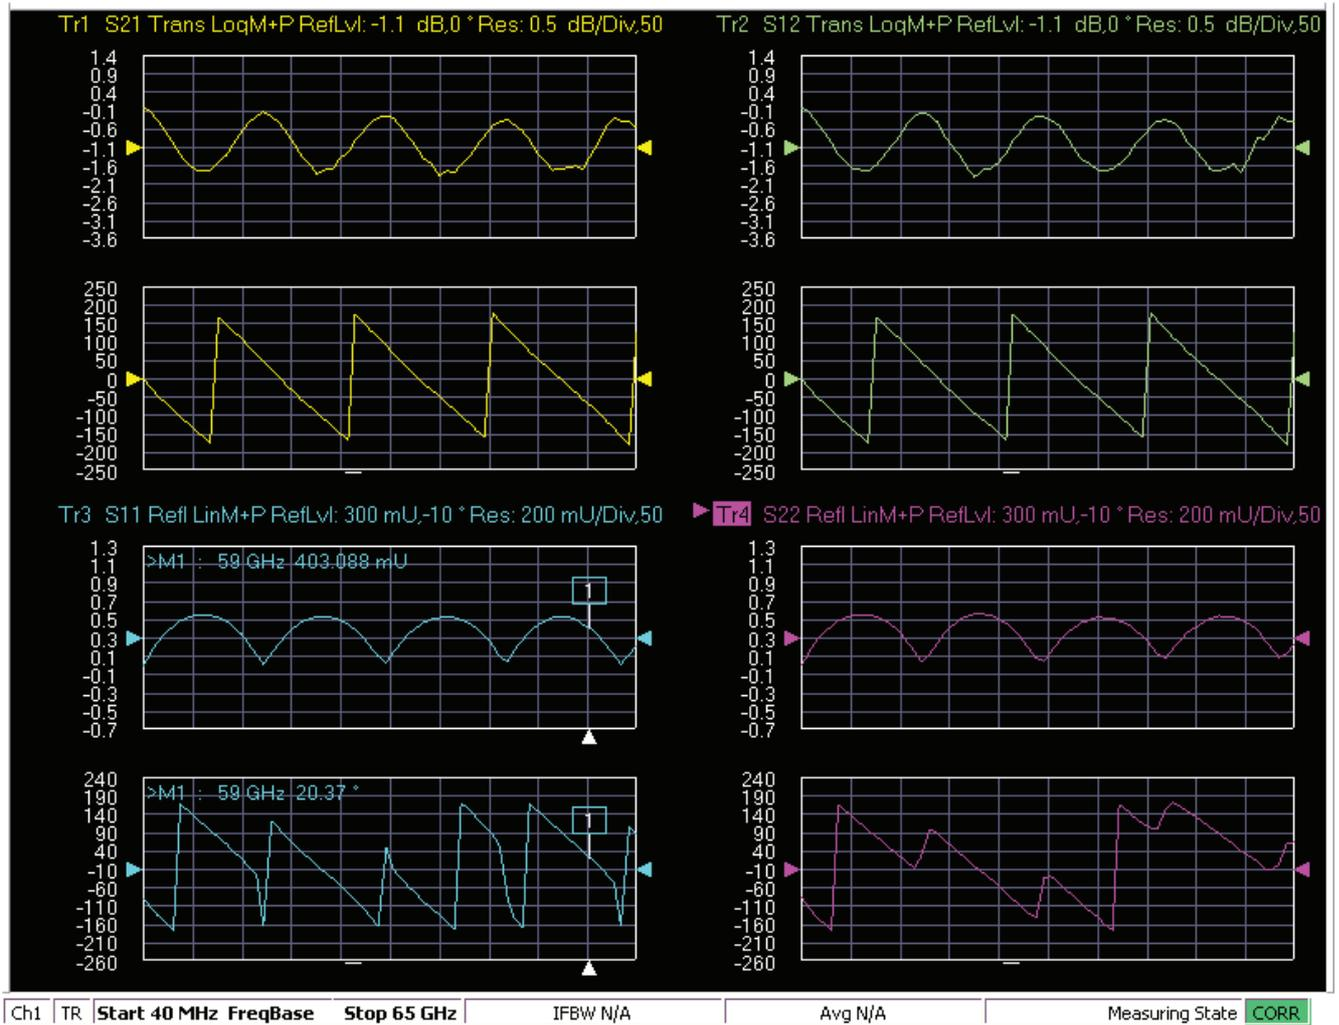

Figure 2-47. MS4640A/B Series VNA, Typical Mismatched Thru Data in Low Band
- When the test completes, the program returns to the main menu described Section 2-9 “Application Interface – Main Menu Tab” on page 2-24, and the display should look similar to Figure 2-47. This is a typical display immediately after measuring the Mismatched Thru in the Low Band. Please note this is for reference only and that the actual data on the VNA display may not be identical.